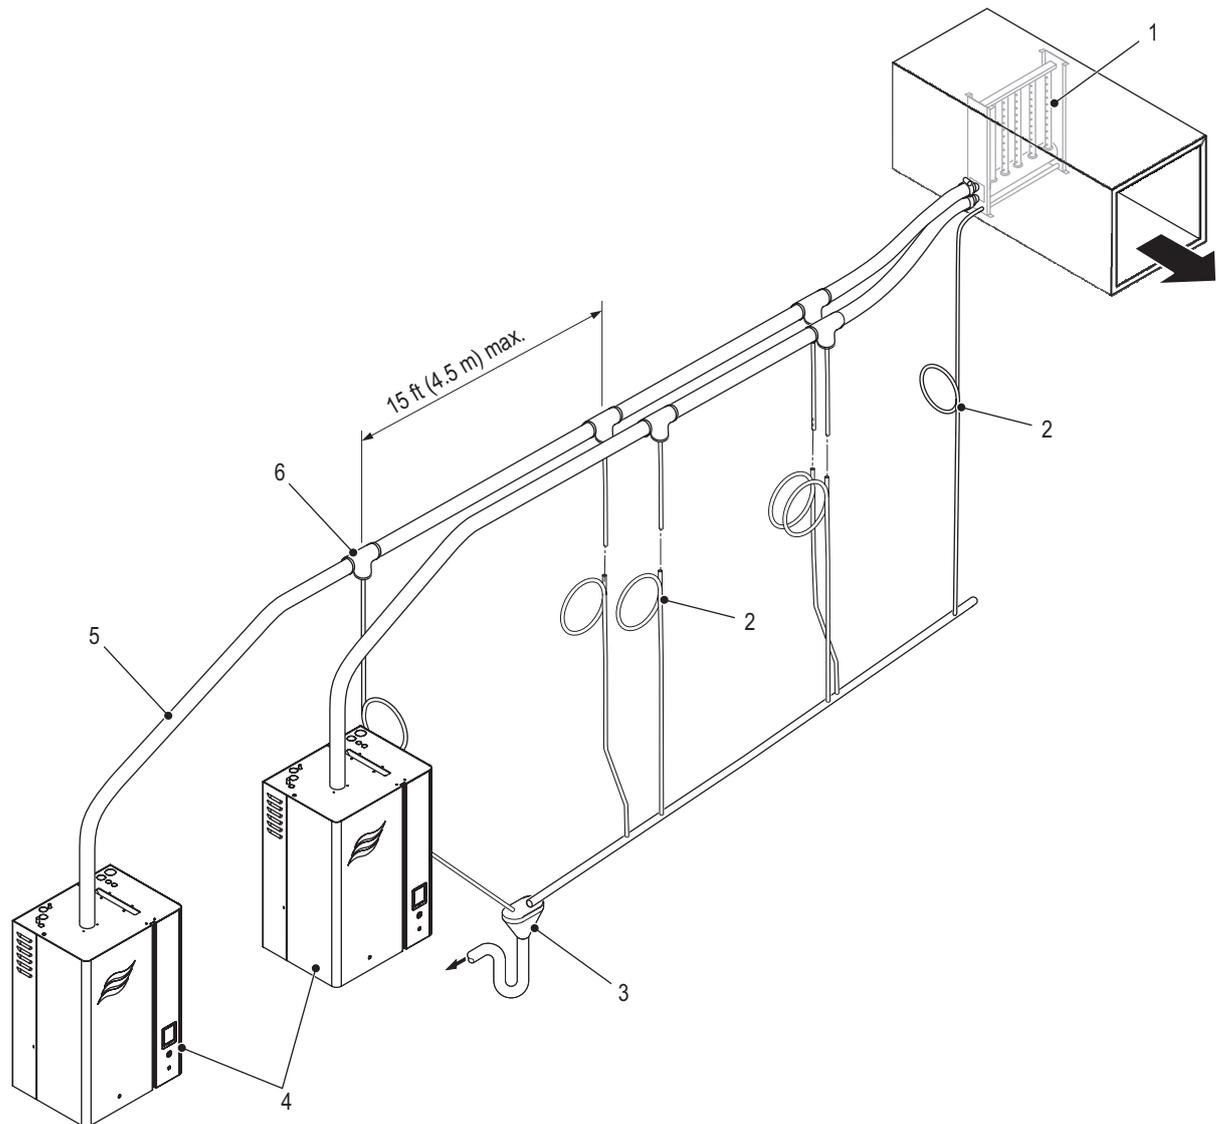

Figure 22: Combining Multiple Steam Lines
- Condensate lines and traps must be installed at regular intervals on long steam runs, and the maximum distance between condensate lines is 15 ft (4.5 m). Refer to Figure 22 on page 45.
- Multiple steam lines (from a Nortec EL 150/200 with dual steam cylinders, or multiple humidifiers) must not merge except at the steam distributor, and ONLY if the steam cylinders operate in parallel mode – refer to Figure 22. If necessary, a specifically designed optional Condairst adaptor must be used to connect the steam lines to the steam distributor.